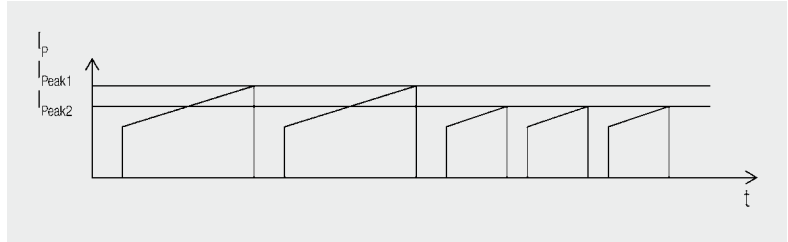

Fig. 1.35: Magnetizing current for a transformer at different driving frequencies
- Shorter voltage pulses with higher frequency are generated, as the rise in current stops at the end of the voltage pulse and starts again at the original point for the next pulse (Figure 1.35).